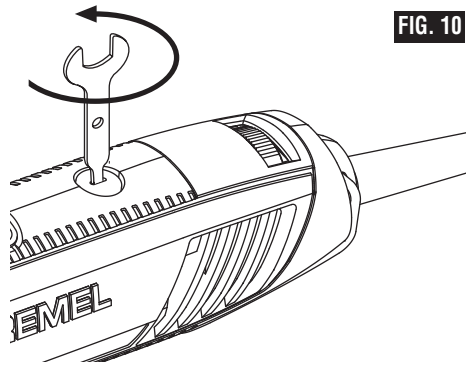

FIG. 10
1. With the power cord unplugged, place the tool on a clean surface. Use the tool wrench as a screwdriver to remove the brush caps in a counter-clockwise direction (Fig. 10).